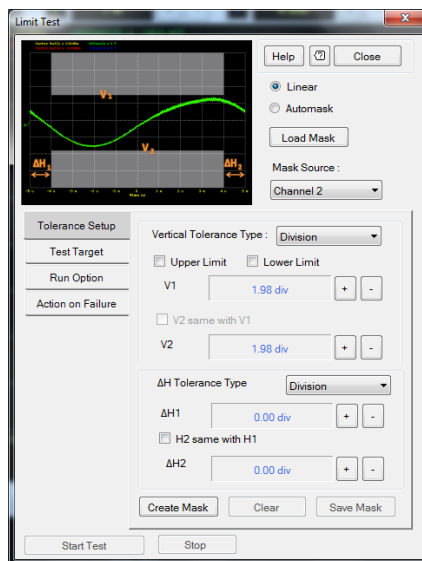

Figure 2-132 Limit Test dialog
- 2 The Limit Test dialog is displayed as shown in Figure 2-132.